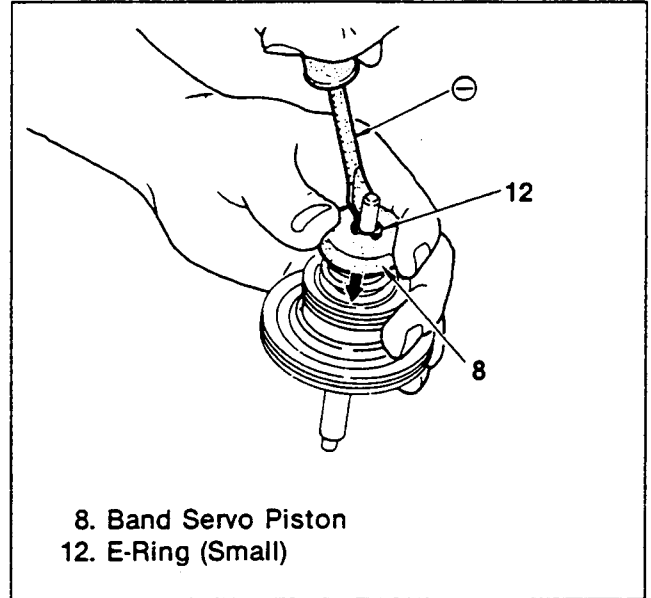

Figure 204. E-Ring Removal
- Do not remove if no fault is apparent (figures 204, 205, 206 and 207).
2. Place the piston stem on a piece of wood or the like. Pressing the servo cushion spring retainer down and using a flat-end screwdriver, remove the E-ring (figure 204).